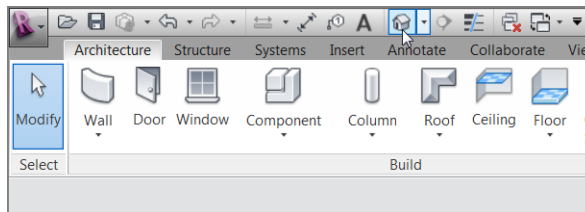

FIGURE 3.19: Clicking the Default 3D View icon
1. Click the Default 3D View icon on the Quick Access toolbar at the top of your screen, as shown in Figure 3.19.